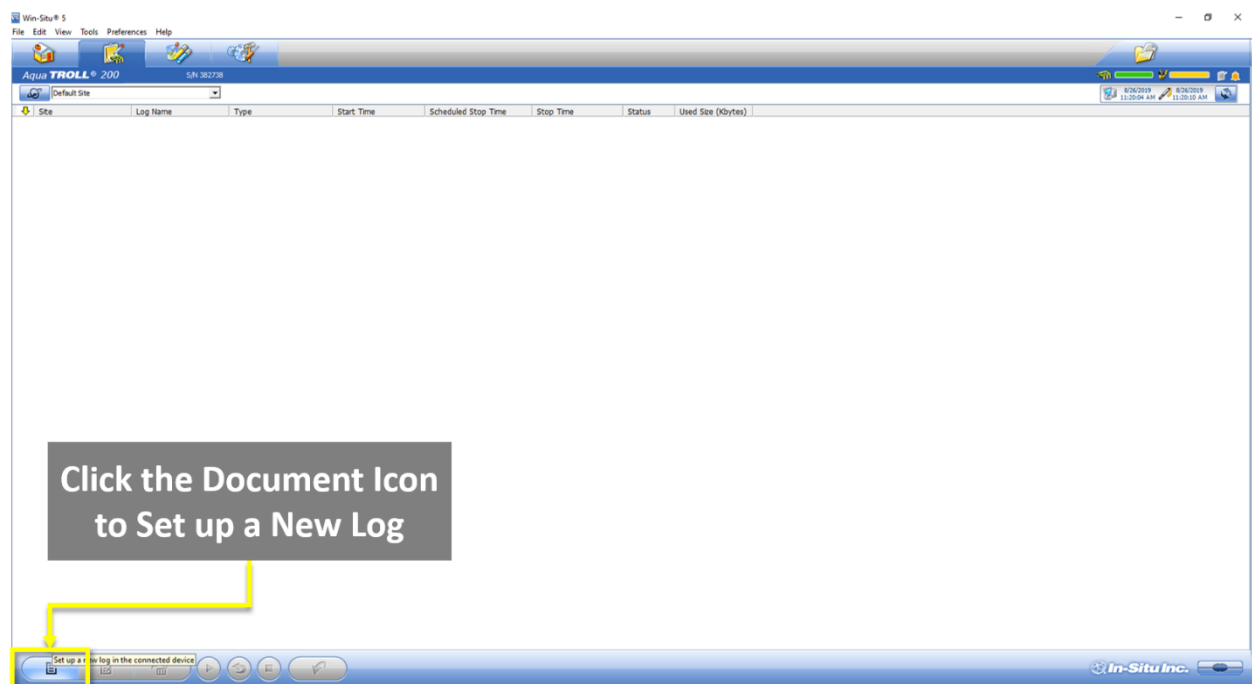

Figure 11. Create a New Log by Clicking on the Document Icon in the Lower Left-hand Corner
3. Create a new Log by clicking on the **Document** icon in the lower left-hand corner of your screen (Figure 11).